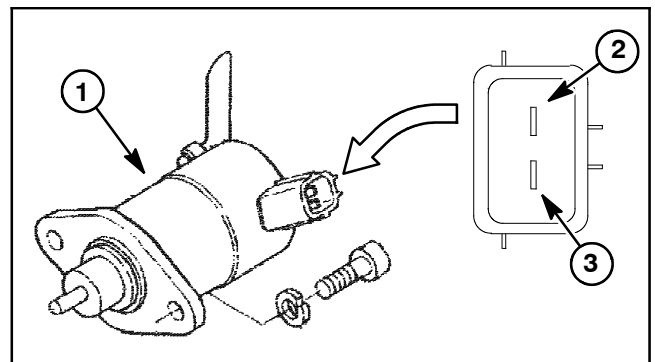

Figure 41
2. Using a digital multimeter, touch one test lead to the pull coil terminal and the other test lead to the fuel stop solenoid frame (ground) (Fig. 41). The resistance of the pull coil should be **less than 1 ohm (but not zero)**.
3. Using a digital multimeter, touch one test lead to the hold coil terminal and the other test lead to the fuel stop solenoid frame (ground) (Fig. 41). The resistance of the hold coil should be approximately **15 ohms**.